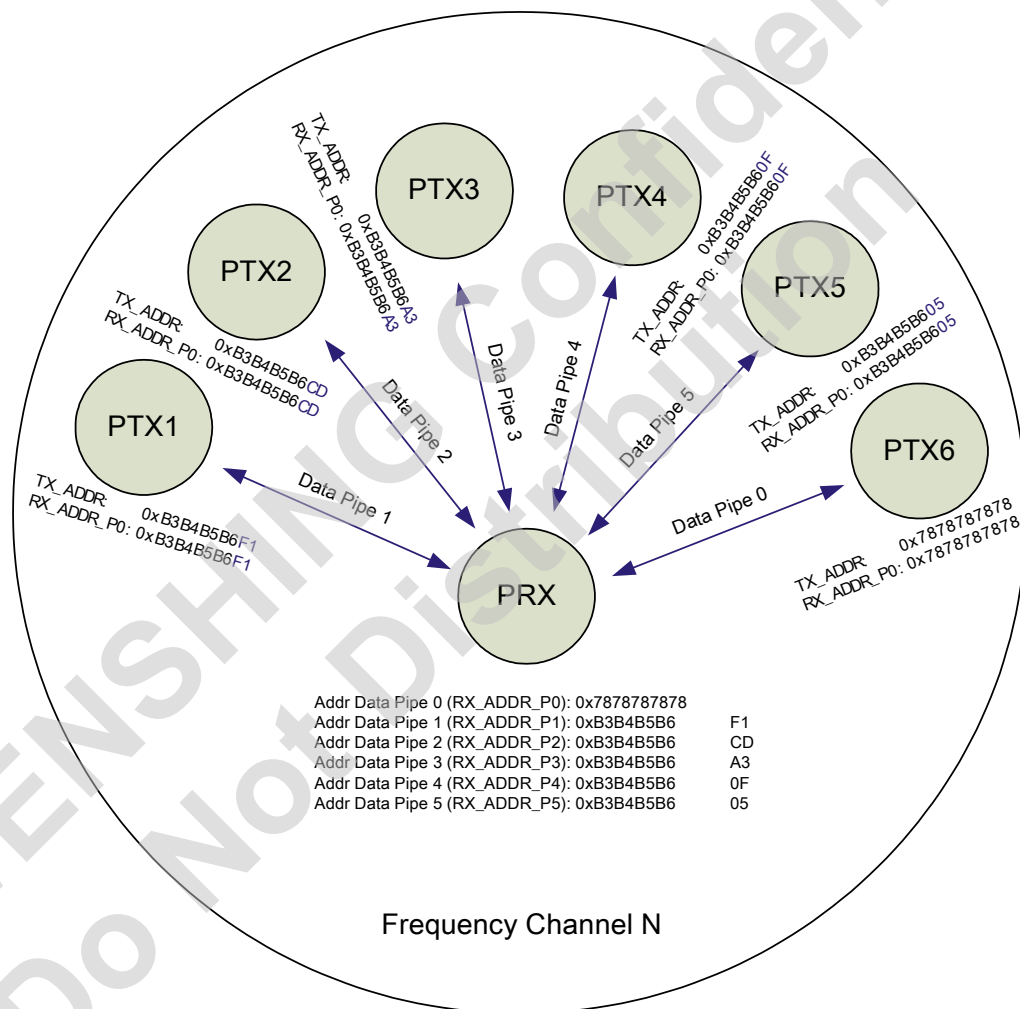

Figure 1
2. When the application MCU has data to transmit, the address for the receiving node (TX_ADDR) and payload data (TX_PLD) has to be clocked into nRF24L01 through the SPI. The width of TXpayload is counted from number of bytes written into the TX FIFO from the MCU. TX_PLD must be written continuously while holding CSN low. TX_ADDR does not have to be rewritten if it is unchanged from last transmit. If the PTX device shall receive acknowledge, data pipe 0 has to be configured to receive the ACK packet. The RX address for data pipe 0 (RX_ADDR_P0) has to be equal to the TX address (TX_ADDR) in the PTX device. For the example in Figure 1